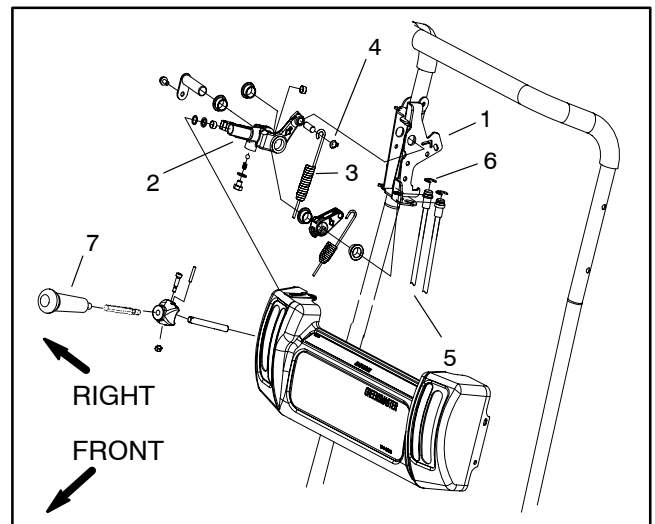

Figure 8
4. Remove traction cable from the traction lever assembly as follows (Fig. 8):
1. Secure traction cable spring to the traction lever assembly (Fig. 8):